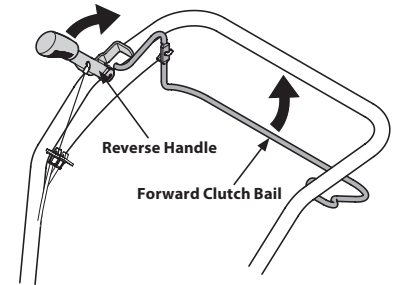

Figure 16
2. When tilling, relax and let the wheels pull the machine while the tines dig. Walk behind and a little to one side of the tiller. Use one hand, yet keep a light — but secure — grip on the handlebar (while keeping your arm loose). See Figure 16. Let the tiller move at its own pace and do not push down on the handlebars to try and force the tines to dig deeper — this takes weight off the wheels and reduces traction.